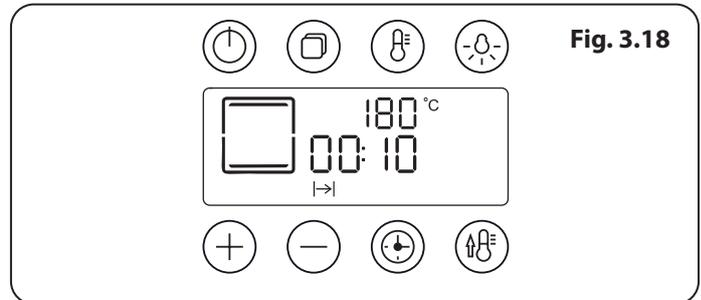
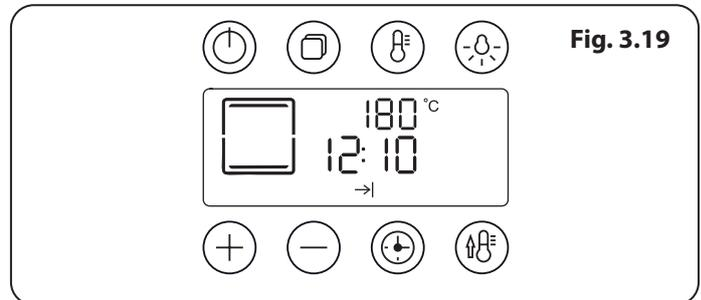

Fig. 3.18
Fig. 3.19
- The oven will enter Standby Mode after 3 seconds, the display will show the 'cook period' (Fig. 3.18) and the 'stop time' (Fig. 3.19). Changing the cooking function will clear the selection.
Note: Fig. 3.18 and Fig. 3.19 show conventional heat function for illustration. All other modes are available.